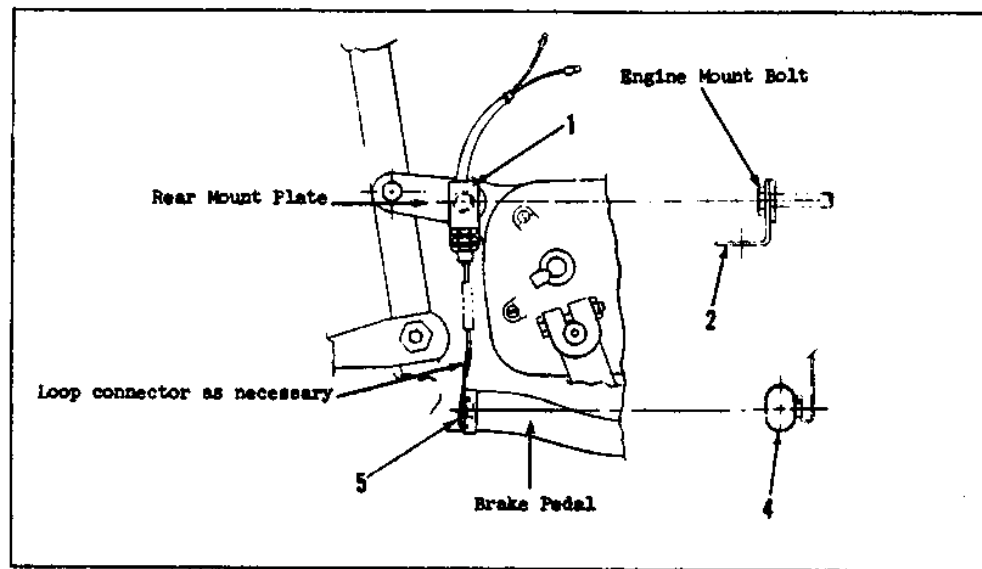

Figure 1 Z-90
Remove front bolt from engine mount plate and install bracket (2) on bolt as shown in Figure 1 and reinstall bolt. Install switch assembly (1) on bracket.